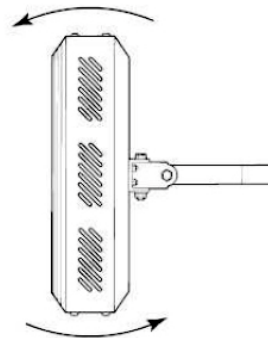

Fig. 2
3. Replace the heater on the bracket using the nut and bolt supplied and fix in the required angular position by tightening the fixing bolt on the bracket. See Figs 2 and 3.